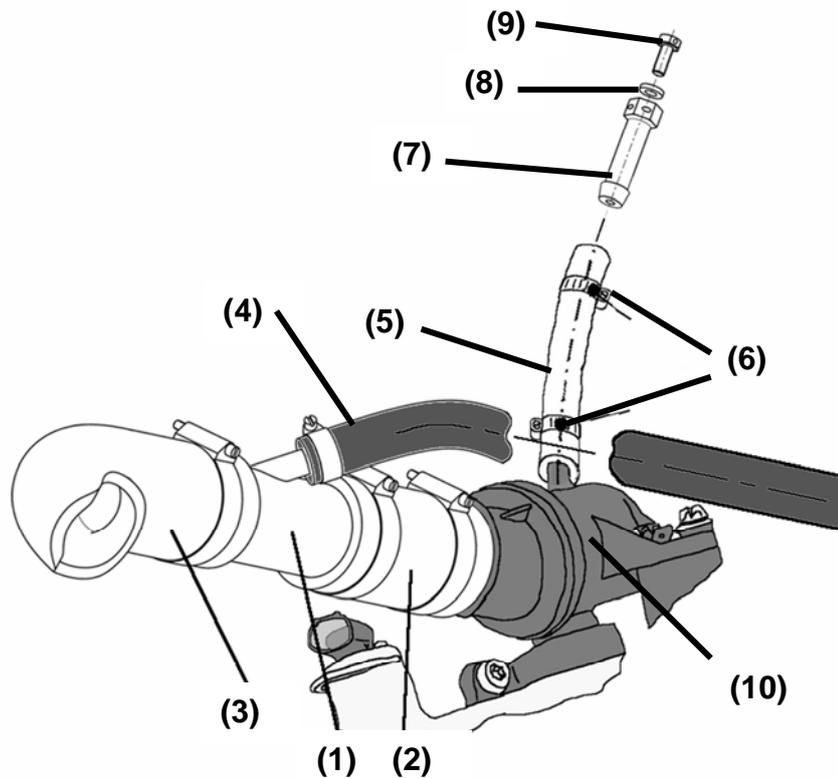

Bild 9/ Figure 9
- *Reconnect the hose (length: 65 mm) to the thermostat, attaching it with a clamp Ø10-18. See Figure 9.*
- *Install the bleeder adapter (P/N 54.81.48.010) into this hose, attaching it with a clamp Ø10-18. See Figure 9.*
- *Install the bleeder screw (P/N 54.81.44.010) and the gasket under the bleeder screw (P/N 54.81.44.020) on the bleeder adapter. See Figure 9.*